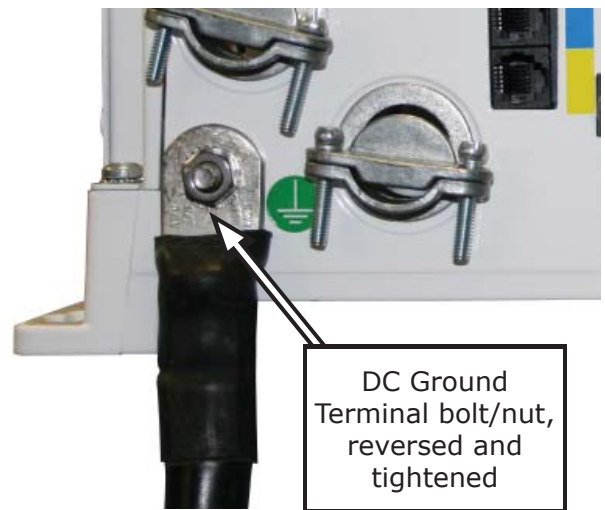

Figure 2-19, Large Ground Wire Connected to MS-E Series
4. Reverse the removed bolt, and place it back in the chassis hole to attach a correctly sized ground cable to the MS-E Series chassis, as shown in Figure 2-19.